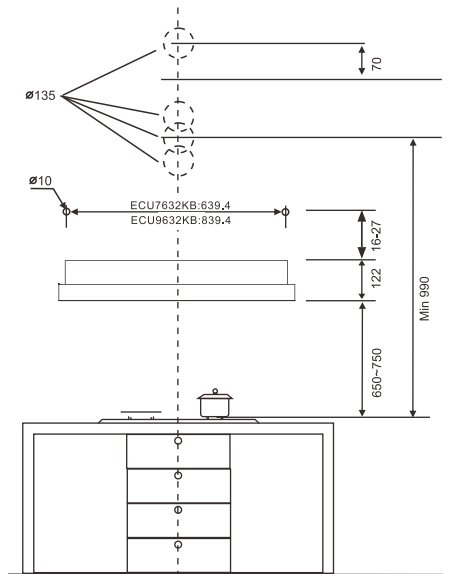

Fig.13
- ② Check the position if the power outlet and consider where the power cable will run, since a hole might have to be made in the wall unit to accommodate it.
- ③ Draw a line in the wall in vertical line with your hob.
- ④ Mark the 2 holes to be drilled in the wall, respecting the distances indicated in Fig.13;
- ⑤ Fit the 2 screw anchors provided then without screwing that 2 of screws down completely. Hang the hood on the 2 screws, tighten the 2 screws completely.